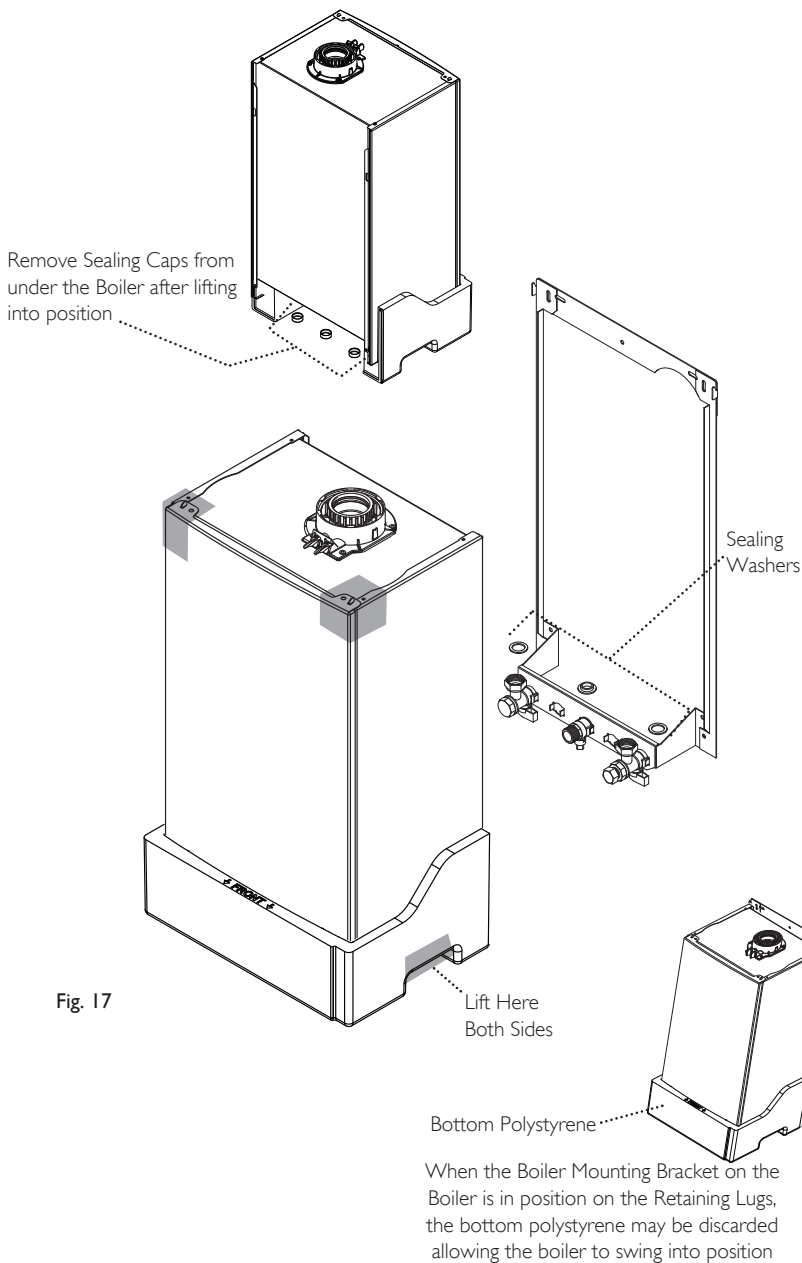

Fig. 17
9.3 Fitting The Boiler (Fig. 17)